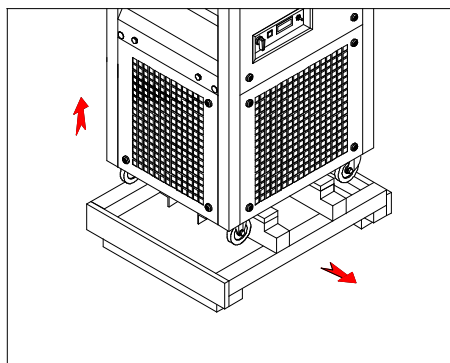

Figure 1-2
- C. Raise the machine, then draw out the pallet (Figure 1-2).